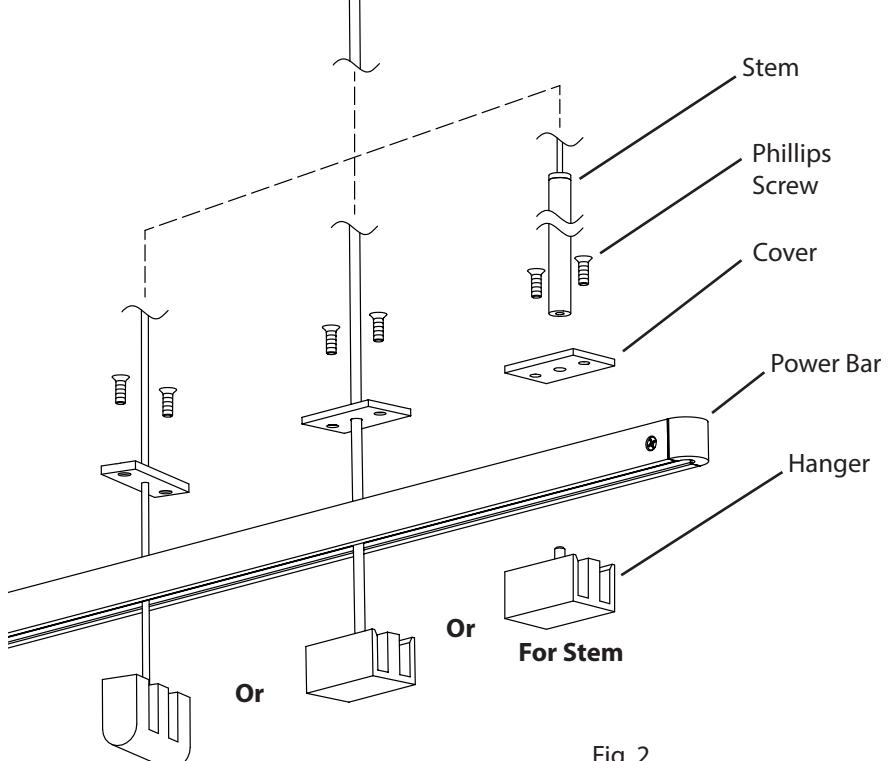

Fig. 2
- b. For Cable Hanger: Insert **Cable** into Post, then adjust to the desired length: to shorten, push the **Cable** up; to lengthen, push in the **Plunger** while pulling down on the **Cable**, release the **Plunger** to lock. Cut off the excess cable where it exits the Post (Fig. 2).